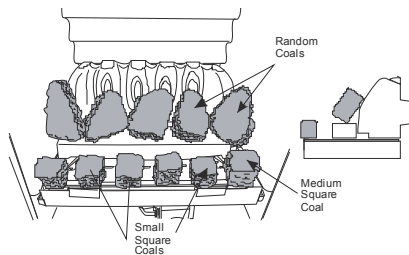

Figure 19
4. Unpack the square coals and insert them into the spikes as shown in **Figure 19**. Then place Large Random coals on the middle matrix such that they are bridging across to the rear matrix.